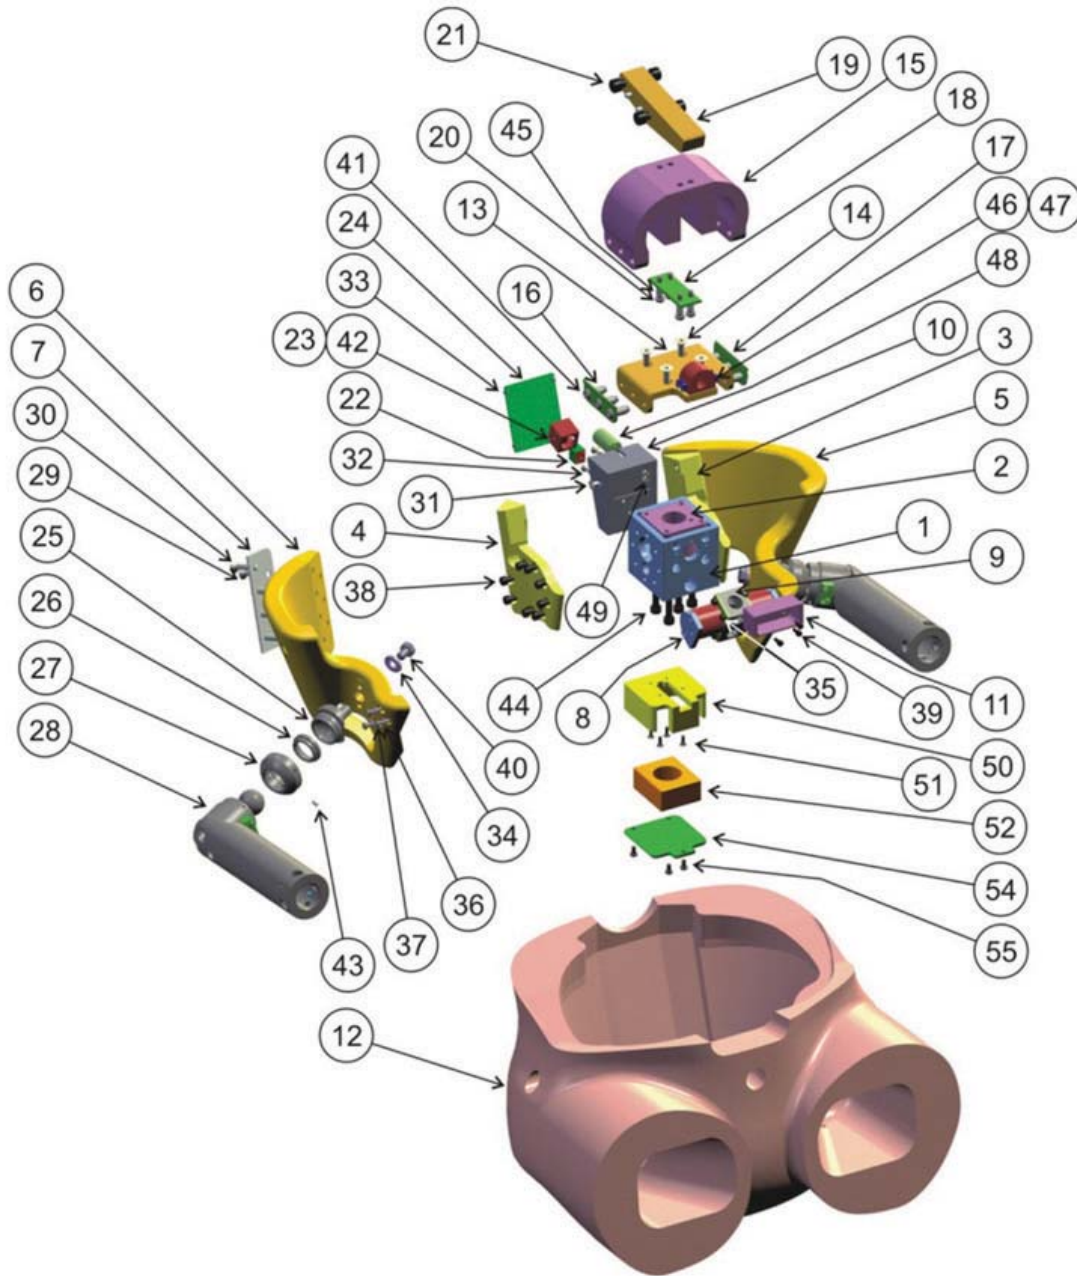
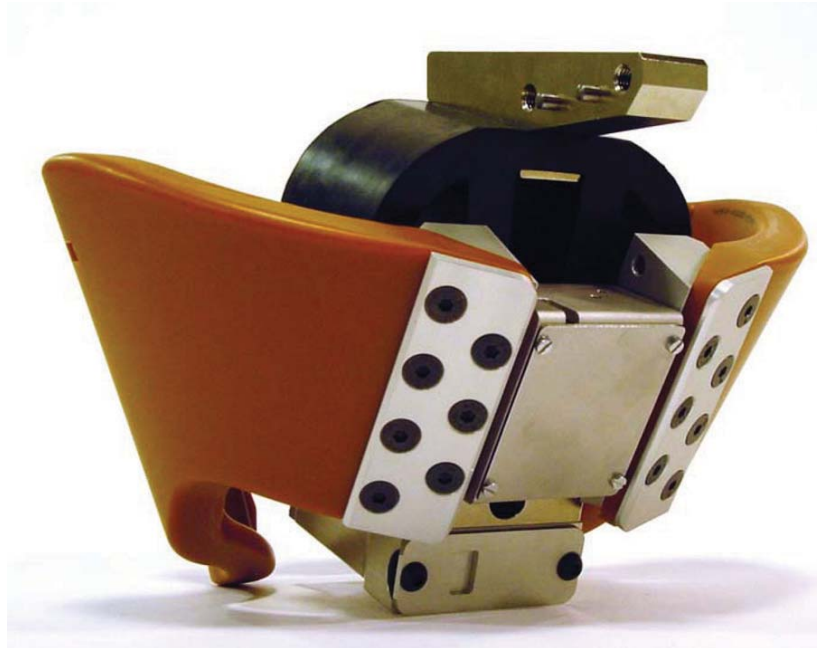

Figure A.51 — WorldSID pelvis components
Figure A.52 — Rear view of pelvis assembly
Note that Table A.13 lists the parts required for assembling the WorldSID pelvis. Note that part numbers refer to those on drawing W50-40000 and in Figure A.51, and that Figure A.52 through Figure A.56 illustrate different views of the pelvis components.
Remove the pelvis flesh (Figure A.51, Item 12) by peeling it away from the pelvis (see Figure A.58).
As shown in Figure A.59, remove the sacroiliac load cell backing plates (Figure A.51, Item 7) by removing the four FHCS M6 × 30 (Figure A.51, Item 30) and three FHCS M6 × 20 (Figure A.51, Item 29) that secure them. Separate the two pelvis bones (Figure A.51, Items 5 and 6), connected by the pubic buffers (Figure A.51, Item 8) and pubic load cell (Figure A.51, Item 9) from the lumbar instrumentation assembly.
Detach the moulded pubic buffers (Figure A.51, Item 8) from the moulded pelvis by removing the three M4 × 16 (Figure A.51, Item 37) and M4 flat washers (Figure A.51, Item 36) that hold each in place (see Figure A.60).
Detach the pubic buffers from the pubic load cell structural replacement (Figure A.51, Item 9) by removing four SHCS M4 × 8 (Figure A.51, Item 35) from each side (see Figure A.61.)
As shown in Figure A.62, detach the lumbar spine (Figure A.51, Item 15), remove the six BHCS M6 × 20 (Figure A.51, Item 41) and six lumbar bushings (Figure A.51, Item 16) that attach it to the lower lumbar mounting bracket weldment (Figure A.51, Item 13). Remove the two lower lumbar clamping plates (Figure A.51, Item 17).
Remove the upper lumbar clamping plate (Figure A.51, Item 18) from the lumbar spine by removing the four BHCS M5 × 25 (Figure A.51, Item 20) that secure it (see Figure A.63). Remove the lumbar mounting wedge (Figure A.51, Item 19).
As shown in Figure A.64, remove the lower lumbar mounting bracket weldment (Figure A.51, Item 13) from the lumbar load cell structural replacement (Figure A.51, Item 2) by removing four FHCS M6 × 16 (Figure A.51, Item 14).
Detach the left and right sacroiliac load cell interfaces (Figure A.51, Items 3 and Item 4) by removing the eight SHCS M6 × 10 (Figure A.51, Item 38) that hold each in place (see Figure A.65).
As shown in Figure A.66, remove the pelvis instrumentation cover plate (Figure A.51, Item 24) by removing four cheese screws M3 × 6 (Figure A.51, Item 33).
Detach the pelvis instrumentation bracket (Figure A.51, Item 10) from the sacroiliac load cell structural replacement (Figure A.51, Item 1) by removing three FHCS M4 × 10 (Figure A.51, Item 32) accessed from the back (see Figure A.67).
As shown in Figure A.69, separate the structural replacements for the sacroiliac and lumbar spine load cells by removing the four SHCS M6 × 20 (Figure A.51, Item 44) accessed from the bottom.
Join the lumbar spine load cell or its mass replacement (Figure A.51, Item 2) to the sacroiliac load cell or its mass replacement (Figure A.51, Item 1) using four SHCS M6 × 20 (Figure A.51, Item 44). The connectors are at the bottom of the load cells and face the front of the dummy. Attach the battery container to the sacroiliac load cell with four FHCS M3 × 10 (Figure A.51, Item 51). Next, place the battery into the container. Attach the cover (Figure A.51, Item 54) with three BHCS M4 × 8. Secure the connector housing
or its replacement (Figure A.51, Item 11) to the front of the sacroiliac load cell with three SHCS M3 x 8 (Figure A.51, Item 39).
Mount the linear triaxial accelerometer (Figure A.51, Item 22) to the pelvis instrumentation bracket (Figure A.51, Item 10) using a cheese screw M2 x 16 (Figure A.51, Item 42) accessed from the back. Attach the dual-axis tilt sensor (Figure A.51, Item 23) with a SHCS M4 x 8 (Figure A.51, Item 31) accessed from the side. Secure the pelvis instrumentation bracket (Figure A.51, Item 10) to the sacroiliac load cell or its structural replacement (Figure A.51, Item 1) with three FHCS M4 x 10 (Figure A.51, Item 32). Mount the pelvis instrumentation cover plate (Figure A.51, Item 24) with four cheese screws M3 x 6 (Figure A.51, Item 33). The wires for the accelerometer and tilt sensor should exit the slot in the top of the instrumentation bracket. The accelerometer wire should be routed over the non-struck sacroiliac load cell interface towards the front of the dummy.
Attach the left and right sacroiliac load cell interfaces (Figure A.51, Item 3 and Item 4) with eight SHCS M6 x 10 (Figure A.51, Item 38) that hold each in place. Connect the lumbar mounting bracket weldment (Figure A.51, Item 13) to the lumbar load cell or its structural replacement (Figure A.51, Item 2) with four FHCS M6 x 16 (Figure A.51, Item 14). Place the lumbar mounting wedge (Figure A.51, Item 19) on top of the lumbar spine, lining up the threaded holes on the bottom with those in the lumbar spine. Place the upper lumbar clamping plate (Figure A.51, Item 18) over the holes in the lumbar spine and secure it with four BHCS M5 x 25 (Figure A.51, Item 20) and four bushings (Figure A.51, Item 45).
Place the assembled lumbar spine (Figure A.51, Item 15) over the lumbar mounting bracket. Position a lower lumbar clamping plate (Figure A.51, Item 17) over the holes in the side of the lumbar spine so the curve of the plate matches the curve in the rubber, with the radius edge facing down. Secure the lumbar spine and clamping plate to the mounting bracket with three BHCS M6 x 20 (Figure A.51, Item 41) and three lumbar bushings (Figure A.51, Item 16). Repeat the procedure for the other side of the lumbar spine.
Connect the pubic buffers to the pubic load cell or its structural replacement (Figure A.51, Item 9) with four SHCS M4 x 8 (Figure A.51, Item 35) on each side. Attach the moulded pubic buffers (Figure A.51, Item 8) to the moulded pelvis with three M4 x 16 (Figure A.51, Item 37) and M4 flat washers (Figure A.51, Item 36) on each side. Position the central assembled portion of the pelvis within the moulded pelvis/pubic assembly. Attach each sacroiliac load cell backing plate (Figure A.51, Item 7) with four FHCS M6 x 30 (Figure A.51, Item 30) and three FHCS M6 x 20 (Figure A.51, Item 29). The shorter screws are used on the inboard holes.
When assembling the hip joint as shown in Figure A.51, apply grease to the hip joint inner ring (Figure A.51, Item 26) and the hip joint socket (Figure A.51, Item 25) before tightening the hip socket retainer (Figure A.51, item 27). Insert the hip joint assembly through the front access hole in the pelvis flesh. Secure from the inside of the pelvis with a M8 × 10 bolt (Figure A.51, Item 40). Place the assembled spine box over the lumbar wedge (Figure A.51, Item 19) and secure with four SHCS M8 × 18 (Figure A.51, Item 21).